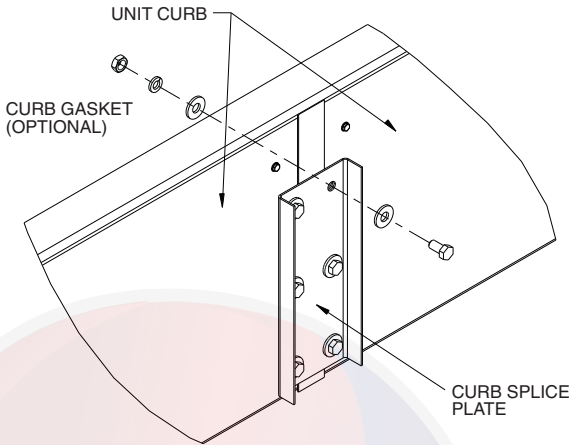

Fig. 19 — Splice Plate Usage
1. Curbs greater than 12 ft in airway length will be split and joined together by a splice plate. Butt the two sections and bolt together with the splice plate as shown in Fig. 19.